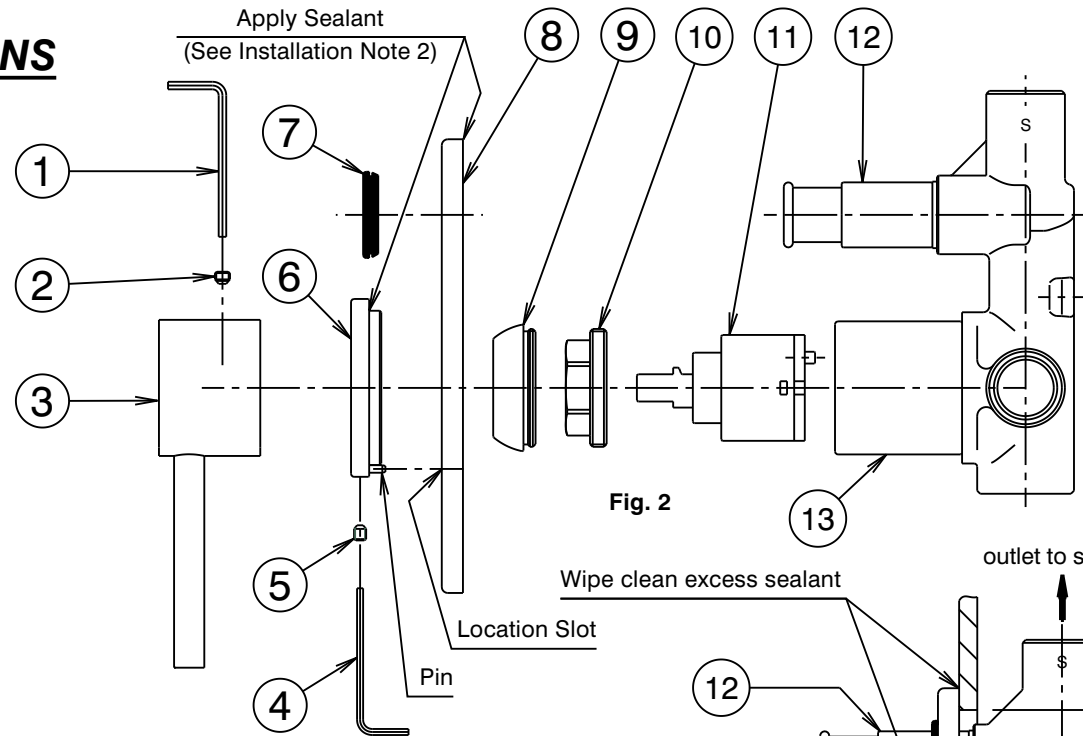
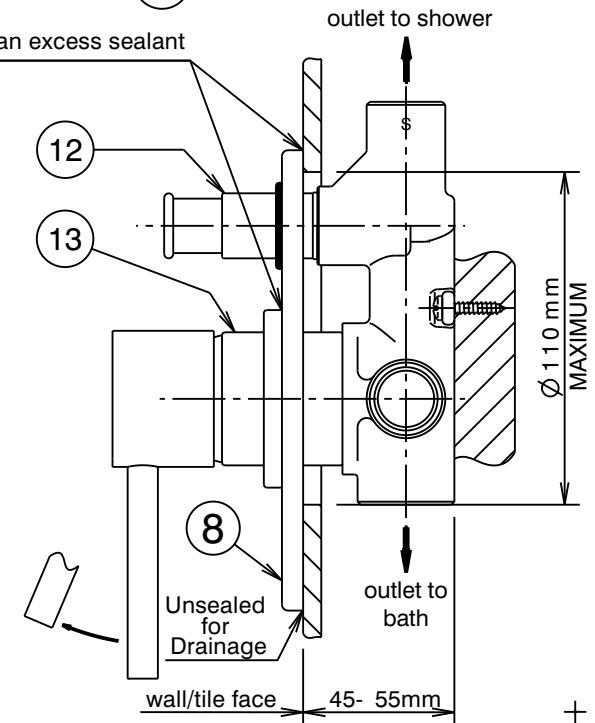

Fig. 2
Fig. 1
### Installation (Fig. 1 & 2)
- \* Mixer body (13) must be installed square to wall/tile face, to ensure cover plate (8) sits flush.
- 2) Ensure seal (7) is fitted in cover plate (8). Apply a suitable clear sealant to the back edge of the cover plate (8), leaving an unsealed section at the bottom for drainage. Apply a suitable clear sealant in the corner around the location diameter of the retaining ring (6), to prevent water entering the wall cavity (See Fig. 2). Carefully slide the cover plate (8) onto the diverter sleeve (12) and position close to the wall/tile face. Fit retaining ring (6) onto the mixer body (13), and slide towards the cover plate (8) ensuring the pin in the retaining ring (6) is engaged in the location slot in the cover plate (8). Push the retaining ring and cover plate firmly against the wall/tile face and tighten screws (5) using 2mm allen key (4). Wipe clean any excess sealant from the external surfaces of the mixer & the wall/tile face (See Fig. 1).
- 3) Fit handle (3) as shown, taking care that it is pushed fully down, then tighten grub screw (2) using 2.5mm allen key (1).
### Replacing Cartridge (See Fig. 2)